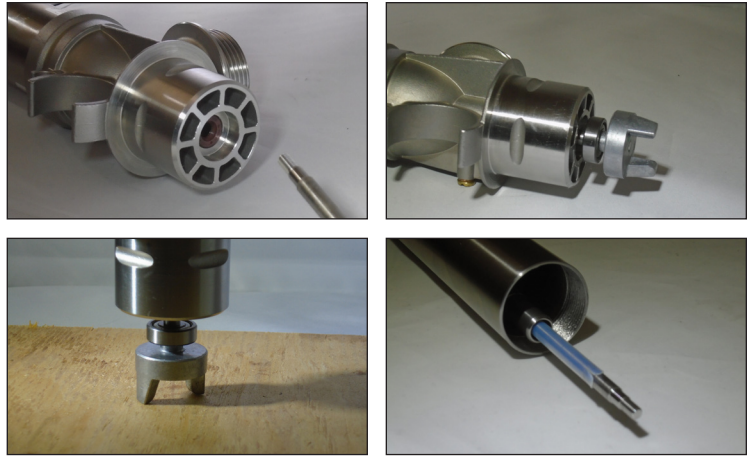

Figure 14 A, B, C, D
5. **Shaft Installation** - Slide the shaft down through the seal until the bearing engages the bearing bore in the head. Set the half coupling on the floor and push the pump down using the intake tube (item 16) for leverage. Make sure the bearing (item 3) is flush with the top of the head (item 6). While the pump is in this upright position slide the shaft sleeve (item 15) between the shaft (item 4) and inner tube (item 14). The shaft sleeve is self positioning so just push it in all the way completely into the inner tube. Sleeve is flared on the bottom to help hold it in position. See figures 14 A, B, C, D.